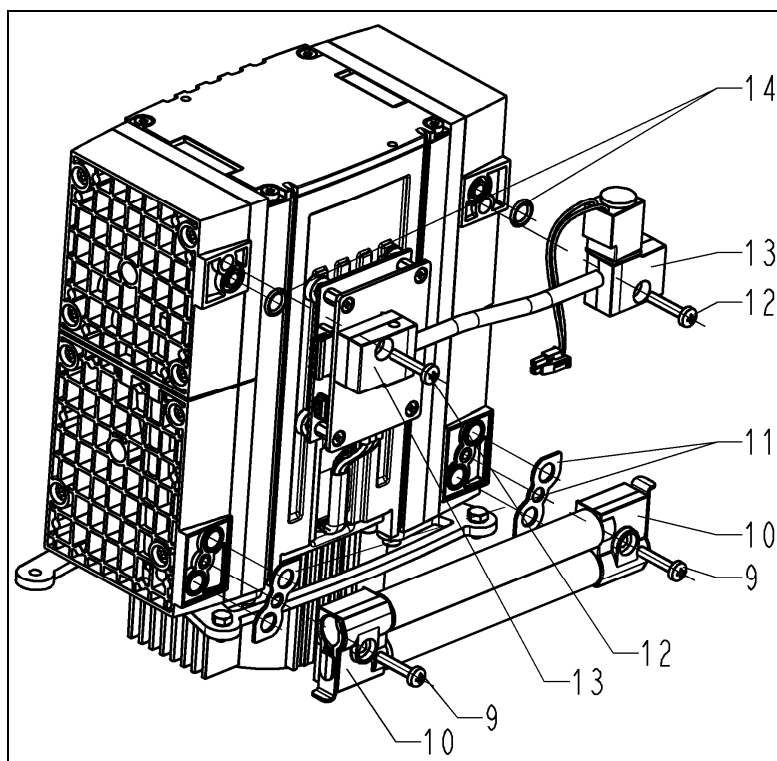

Fig. 23: Disassembling the head connections
1. Remove the head connections' (10) and (13) attachment screws (Fig. 23/9) and (12) and remove the head connections.
2. Remove O-rings (14) and flat seals (11).
(Fig. 23/9 and 12).